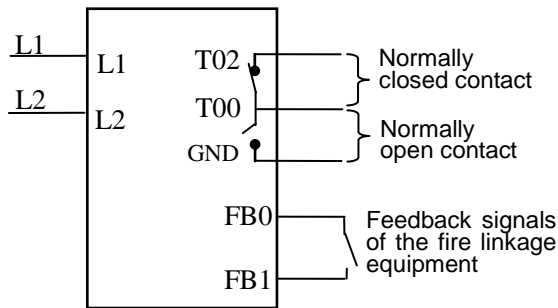
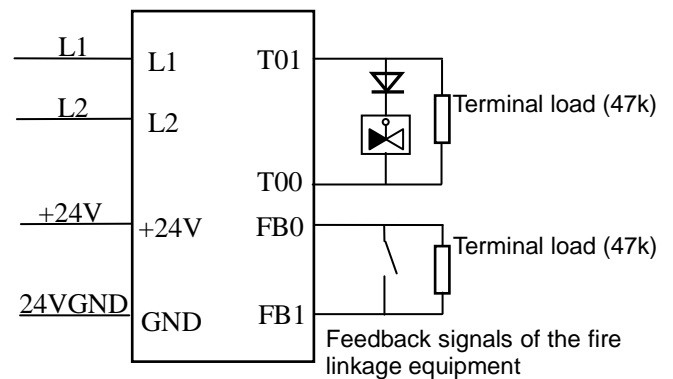

Fig.3
Fig.4
- 1) When a built-in terminal load is used, the wiring method is shown in Fig.3. A dry contact signal (namely a relay contact signal) is output after **action**.
- 2) When an external terminal load is used, the wiring method is shown in Fig.4. It is necessary in this case to have the load circuit and the feedback circuit connected in parallel with a 47K terminal load. The KZJ-956 module is able to identify the short or open circuit fault of the load circuit and the open circuit fault of the feedback circuit.
3. Conduct correct wiring as instructed in Fig.3 or Fig.4.